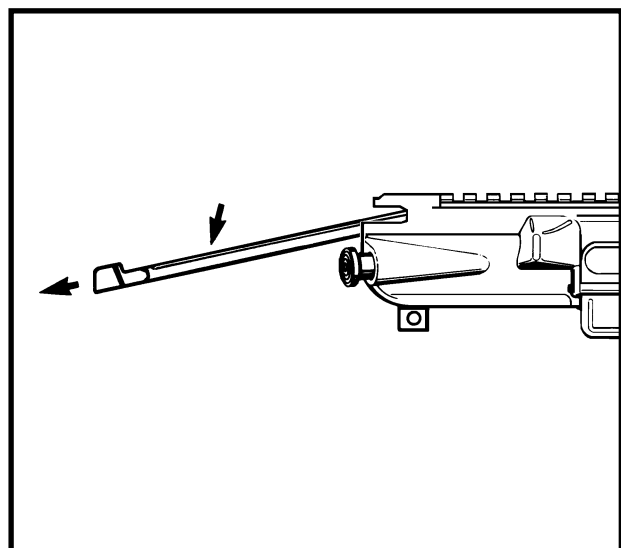

Figure 3-2-6 Removing the Cocking Handle
- e. Remove the cocking handle by pulling it rearward until its guide lugs drop down out of the guideways. See Figure 3-2-6.